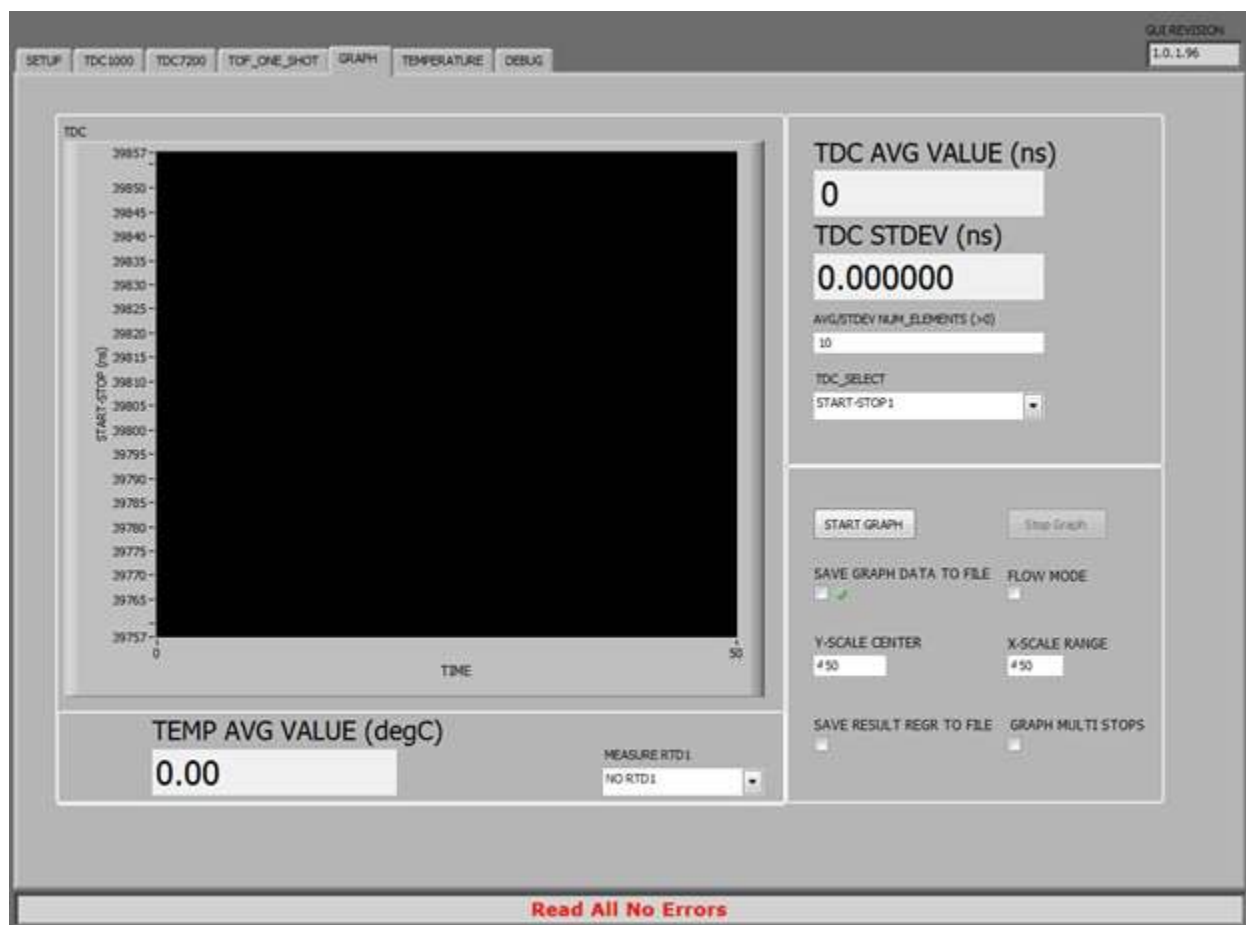

Figure 5-2. TDC1000_7200EVM Graph
2. The message at the bottom of Figure 5-2, "Read All No Errors", indicates that the GUI is up and running and all the registers and hardware connection are correct; otherwise, refer to Chapter 6 to troubleshoot.